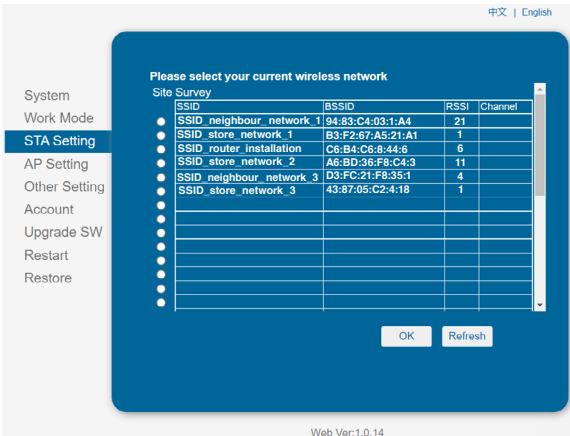

Fig. 46. Selecting the WiFi network.
7. Enter the password in the blank box and click on "Save". See Fig. 46.